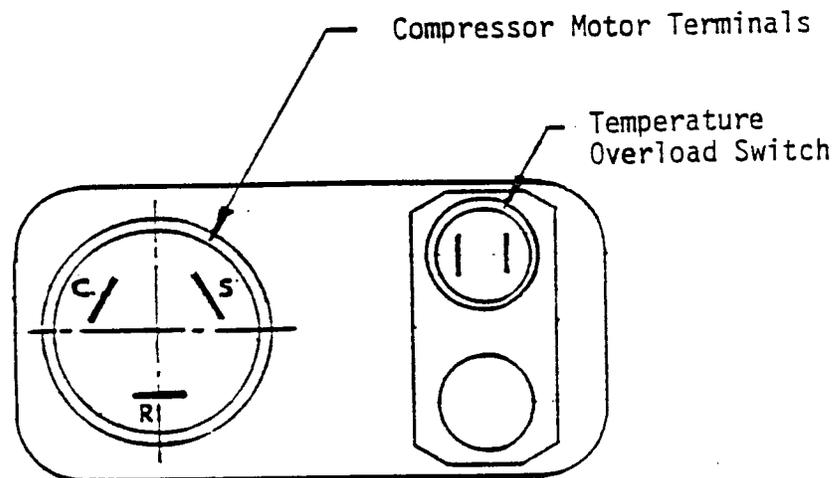

Fig. 9 Terminal Box on Compressor
3. Remove the terminal box cover from the top of the compressor motor to expose the three terminals R, S and C. See Fig. 9. Disconnect wires 5, 6 and 7 from terminals C, R and S, respectively.